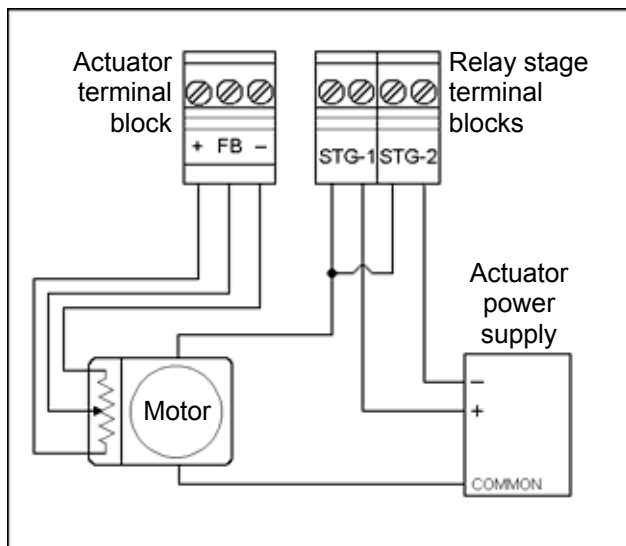

Figure 10: Inlet actuator wiring
1. Connect the linear actuator to the control as shown in Figure 10 below.